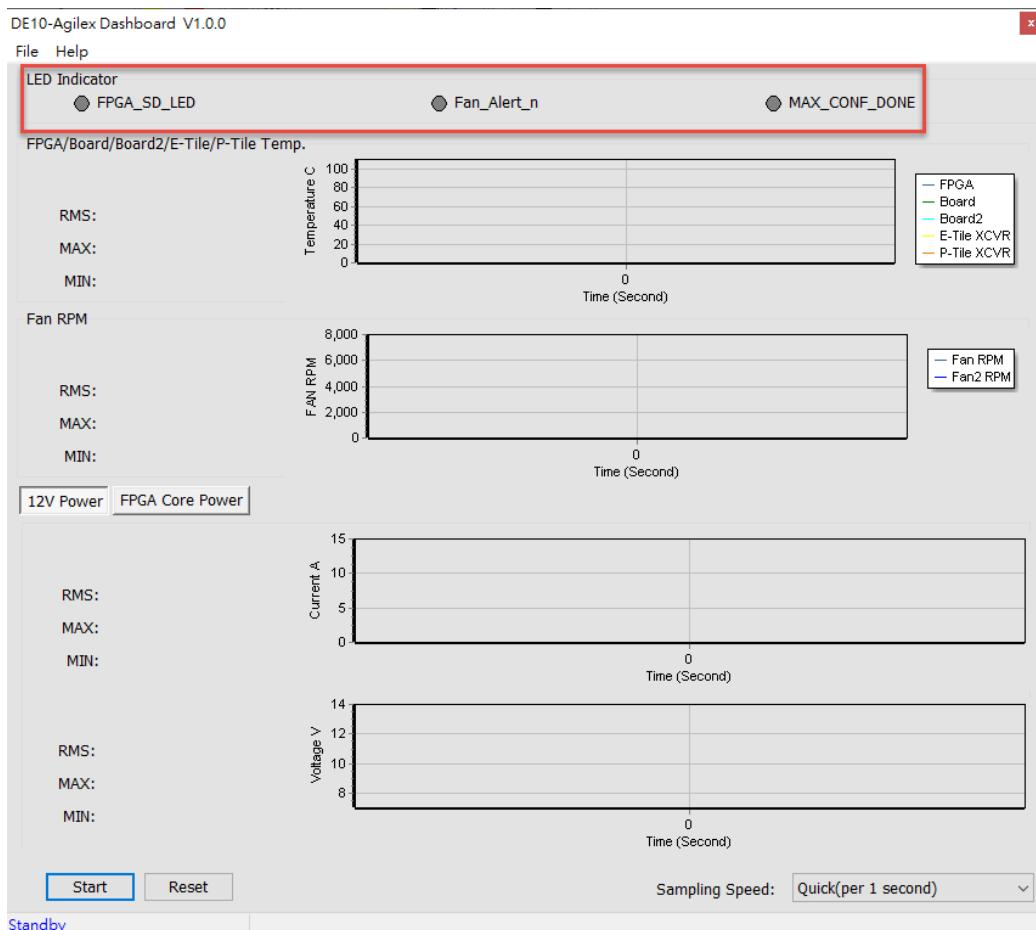

Figure 10-8 FPGA Status section
- **FPGA Status:** As shown in **Figure 10-8**, it will show the status LED number on the DE10-Agilex board. The definitions of these indicator LEDs are as follows: